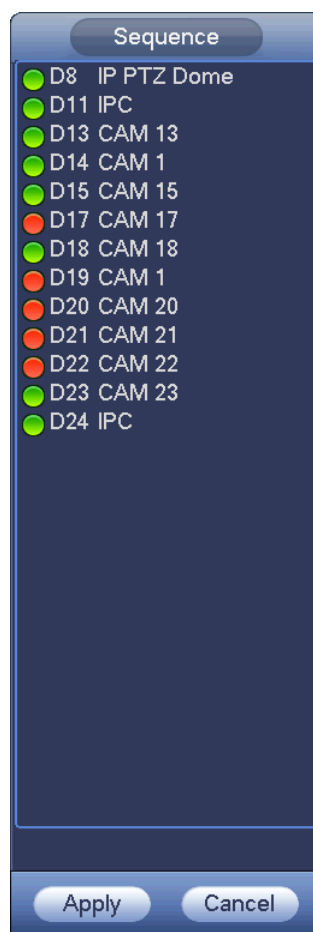

Figure 4-60
Enter edit view interface. See Figure 4-60.
- In case the channel amount has exceeded the device max split amount, the edit view interface can display the max screen number amount and current screen number. In Figure 4-60, click  or , switch the video from other channel.